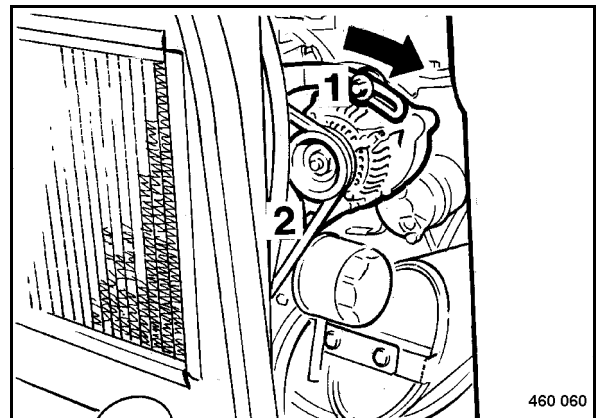

Fig. 99
- Slacken the fastening screws 1 and 2 (Fig. 99).